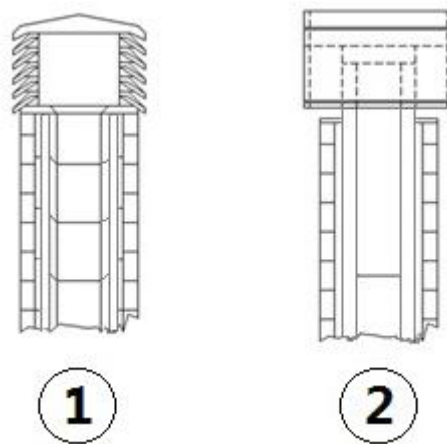

Fig. 4 - Anti-wind chimney pots
- We recommend using an anti-wind chimney pot, see **Fig. 4 page 8**.
- External chimney flue entirely made up of insulated stainless steel pipes, i.e. with double wall of minimum $\varnothing 150$ mm: all must be firmly attached to the wall. For chimney against wind effects please (see Fig. 4 page 8).